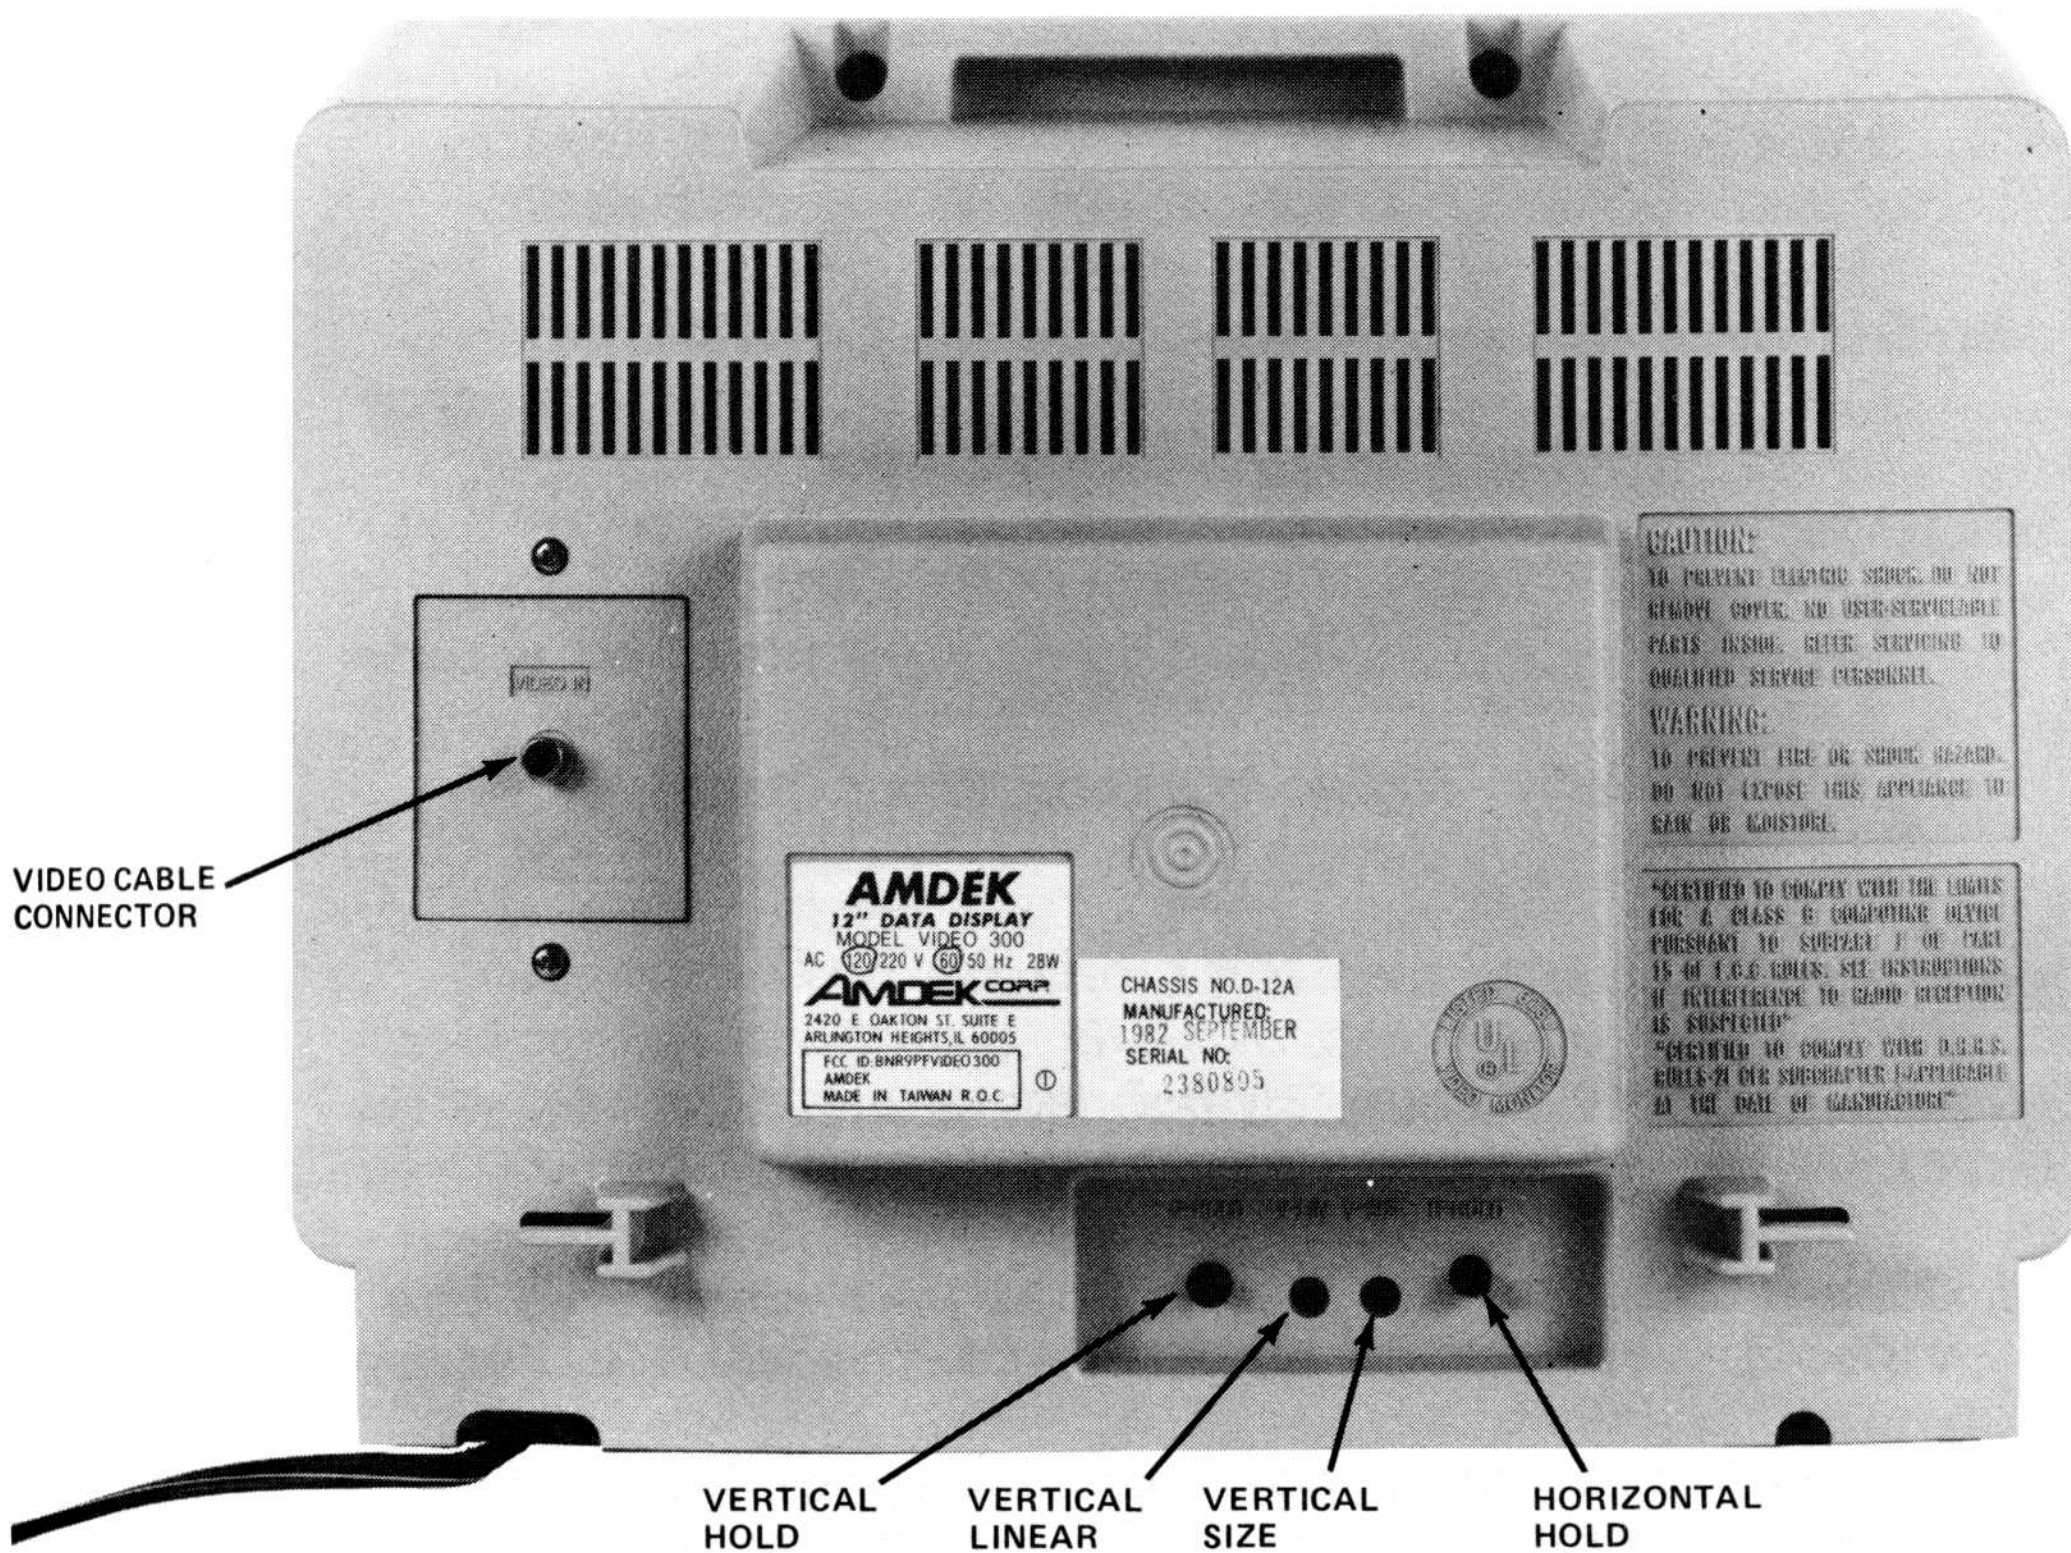

Figure 2-4. Video Monitor Back Panel
- \* Turn the monochrome display unit on, and adjust as necessary (see Section 2.7.1 and Figure 2-4 and 2-5).